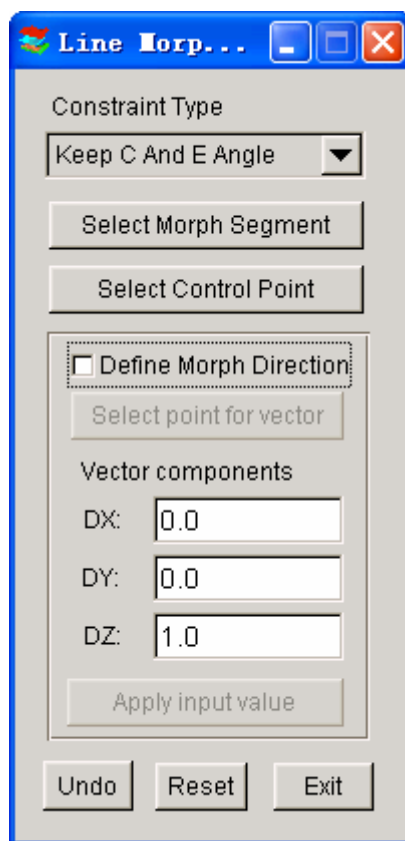

Figure 6.4.1 Line Morphing window
2. After selecting a line, the program displays the Morphing Line dialog window as shown in Figure 6.4.1.